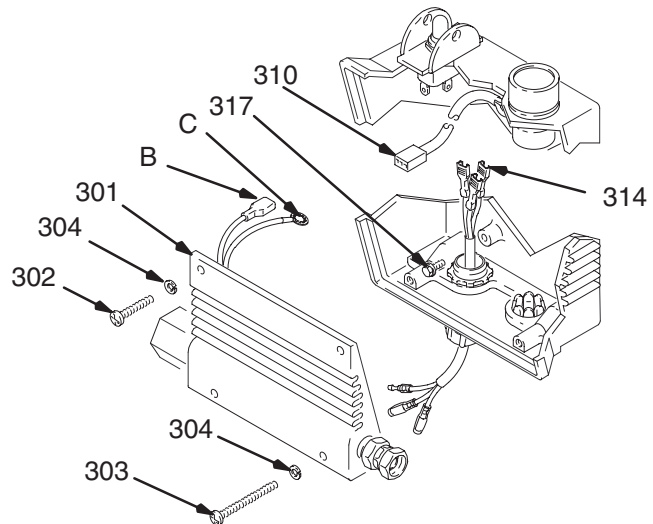

Fig. 21
3. Remove the four mounting screws and washers (302, 303, 304) from the pressure control cover (301). See Fig. 21.
4. Carefully remove the pressure control cover (301) so as not to stress the cables.
5. Disconnect the black and white wires of the pressure control cable (314) from the pressure control cover.
6. Disconnect the potentiometer cable assembly (310) from the pressure control cover.
7. Disconnect the red power lead (B) from the ON/OFF switch.
8. Loosen the ground terminal screw (317) and disconnect the ground lead (C).